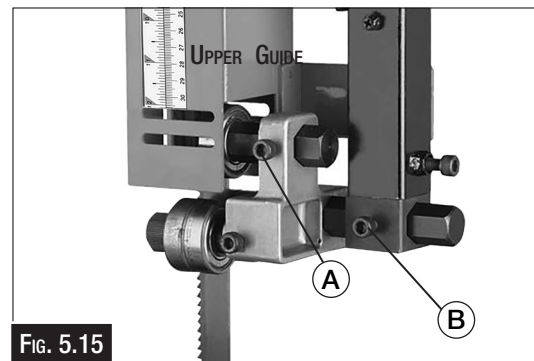

FIG. 5.15
4. Loosen the socket head cap screw on the support bearing adjustment shaft. (A in Fig. 5.15)